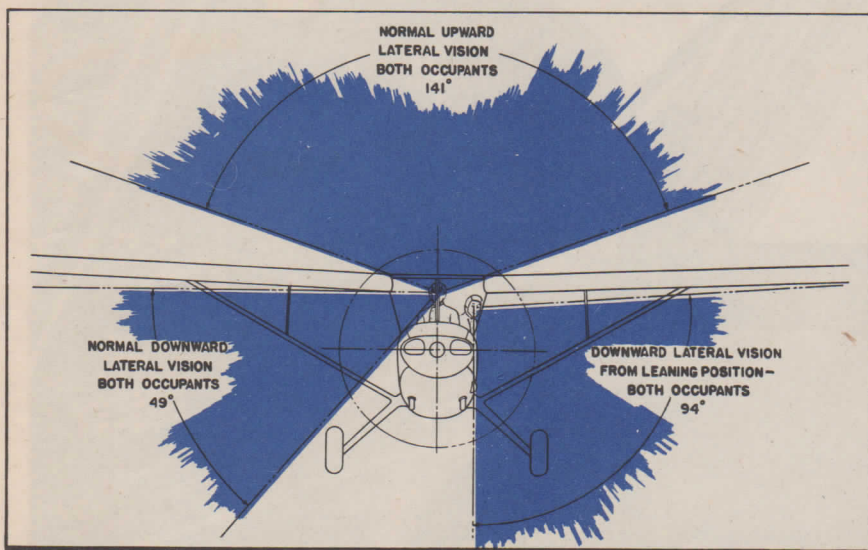

Figure 5 -
(1) **COMPARTMENT ENCLOSURE.** - The sloping windshield is made up of two curved transparent plastic sheets joined at the center and extending back on either side of the airplane to the door frame on one side and the window frame on the other. The windows on the left side of the airplane are made up of hinged and fixed panels, sloping outward at the top to allow downward vision. (See figures 5 and 6.) The hinged panels, which are opposite the pilot and observer, open out and downward. The pilot's and observer's doors are on the right side of the airplane with their windows sloping